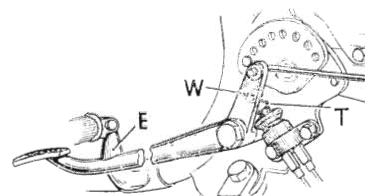

FIGURE 6.
STOP-LIGHT SWITCH (Rear Brake):—This is actuated by the brake pedal and is operated by the adjustable stop (T) FIG. 6, locked by the nut (W). With the switch plunger fully depressed (by hand) and the brake pedal against its stop on the footpeg, there should be 1/32" gap between the stop (T) and the plunger. Adjust as required until this condition is obtained.